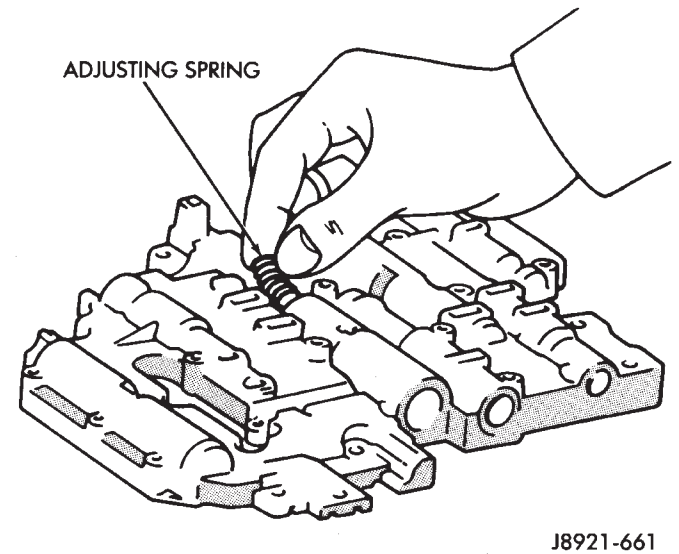

Fig. 18 Installing Throttle Valve Adjusting Spring
- (13) Install throttle valve adjusting spring in bore and onto end of throttle valve (Fig. 18).